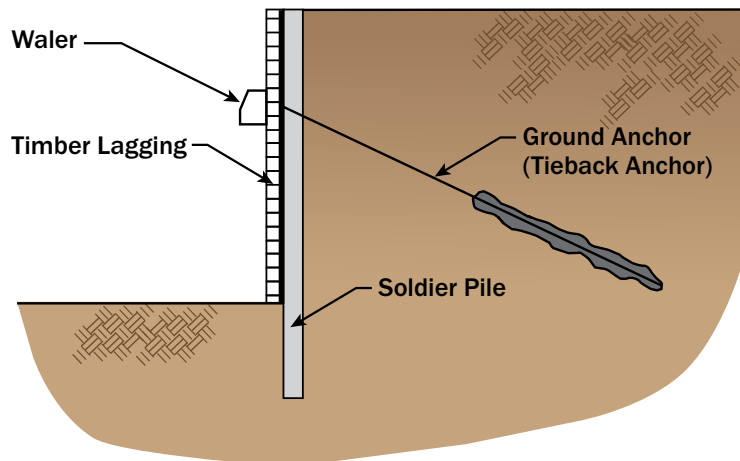

Figure 5.3.14. Soldier pile walls can be used to reinforce failure planes. (Source: FHWA, 1999)
Soldier pile walls use a system of steel piles driven vertically at regular intervals (usually every 6 feet to 12 feet) and horizontal planks, called lagging, placed between the piles to retain the soil behind the planks (Figure 5.3.14). Soldier pile walls provide stability by resisting the sideways forces of the soil behind the wall. The piles are usually steel H-piles, but can include precast concrete, micropiles, and conventional pipe sections (Pilebuck, March 2019). The lagging material usually consists of wood planks but also can be metal decking or precast concrete. The piles are installed and then excavating occurs in stages to place the lagging until the design wall height is reached. This type of retaining wall should be designed by a Professional Engineer.
- Soldier pile walls can be designed as cantilevered walls up to a certain height, above which steel tiebacks can be drilled and grouted into the retained soil as shown in Figure 5.3.14.